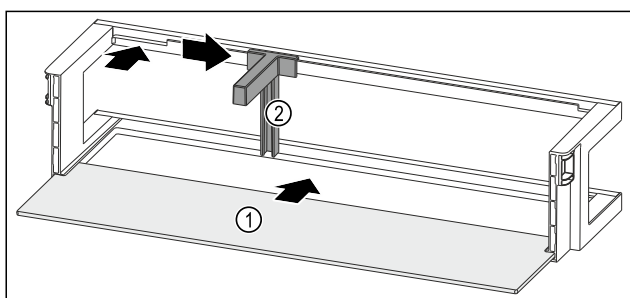

Fig. 243 Door rack with shelf
- Push the shelf Fig. 243 (1) into the side recesses.
- Insert the bottle holder Fig. 243 (2) in the recess.
- Push the bottle holder Fig. 243 (2) to the desired position to the side.